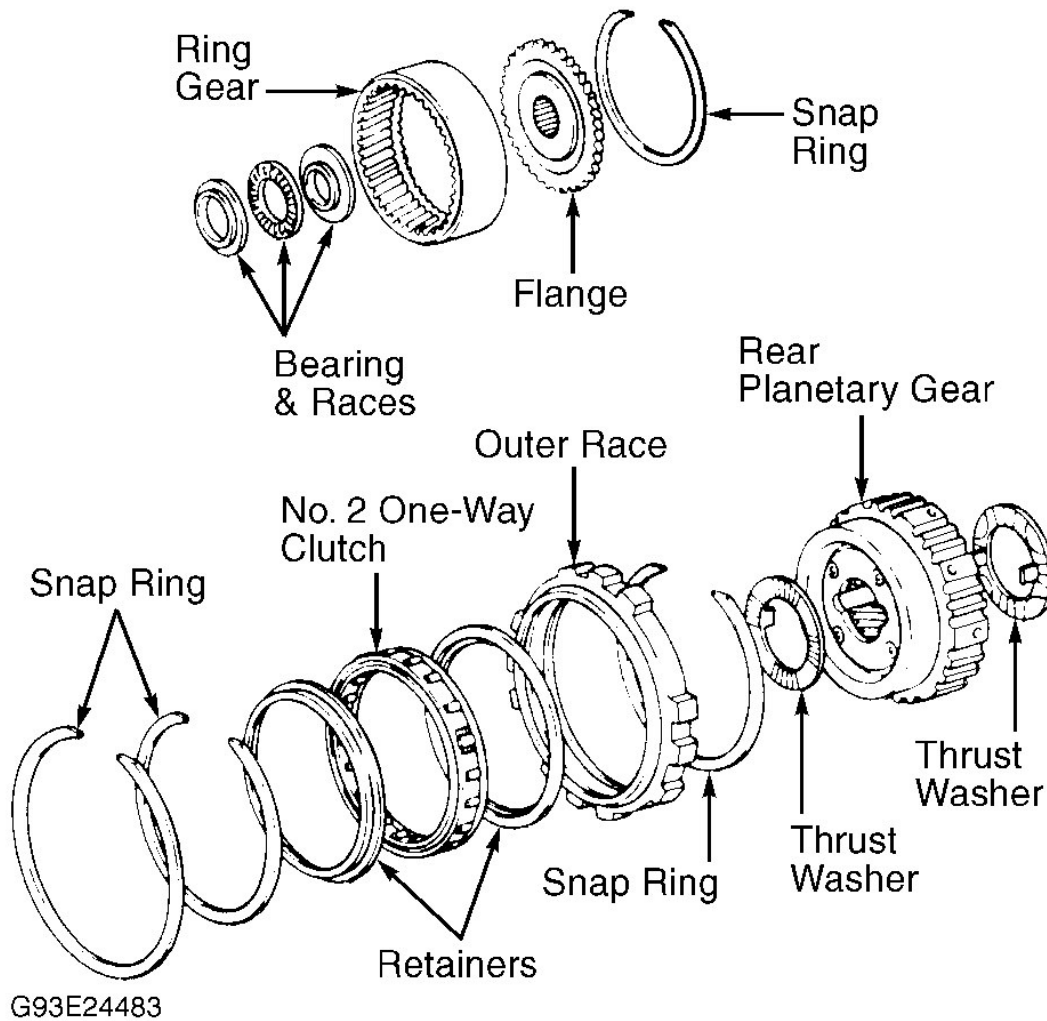

Fig. 24: Exploded View Of Rear Planetary Gear Assembly
2. Install planetary gear into one-way clutch. Planetary gear inner race should face toward back side of outer race. Check operation of one-way clutch. Coat thrust washers with petroleum jelly. Install thrust washers on both sides of planetary gear. Ensure thrust washer tab is aligned with hollow area in gear. See **Fig. 24** .